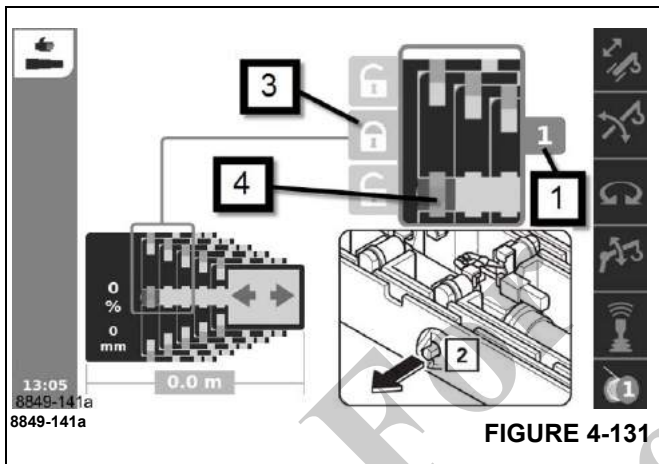

FIGURE 4-131
- Move the telescoping cylinder to the desired locking point, e. g. to telescopic section 1 (Figure 4-131).